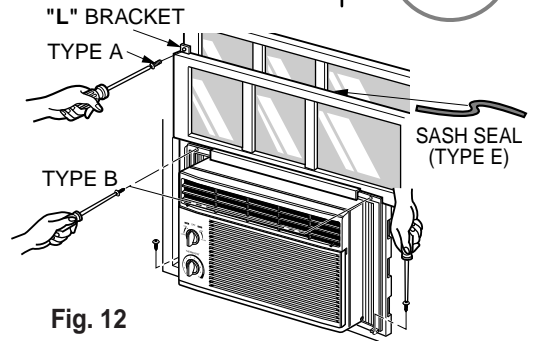

Fig. 12
Extend the guide panels (TYPE F) to fill the window opening using 4 screws (TYPE B) to secure them, as shown in Fig. 12.
- a. Cut the sash seal (TYPE E) to the window width. Stuff the sash seal between the glass and the window to prevent air and insects from getting into the room, as shown in Fig. 12.
- b. Fasten the "L" bracket using a (TYPE A) screw, as shown in Fig. 12.